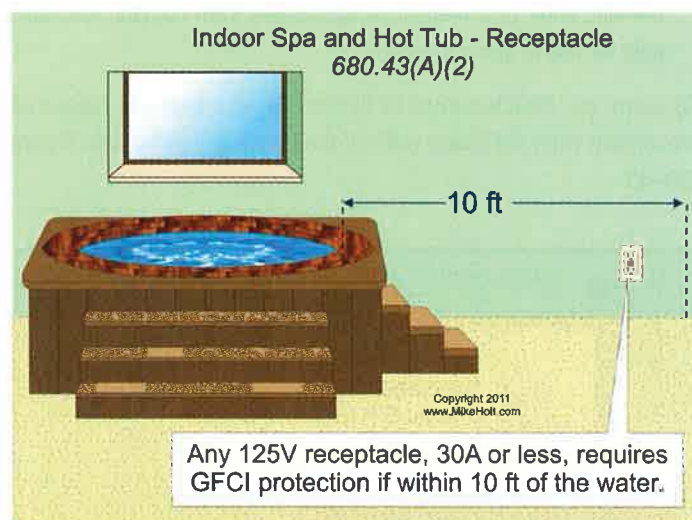

Figure 680-42
(1) Location. Other receptacles must be located not less than 6 ft, measured horizontally, from the inside walls of the indoor spa or hot tub.
(2) GFCI-Protected Receptacles. Receptacles rated 30A or less at 125V, located within 10 ft of the inside walls of an indoor spa or hot tub, must be GFCI protected. **Figure 680-42**